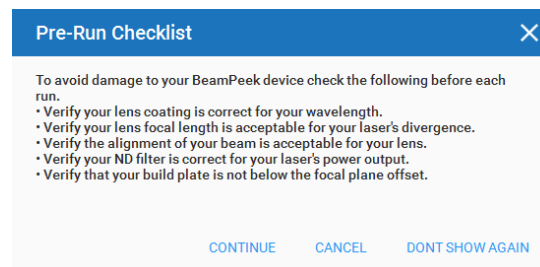
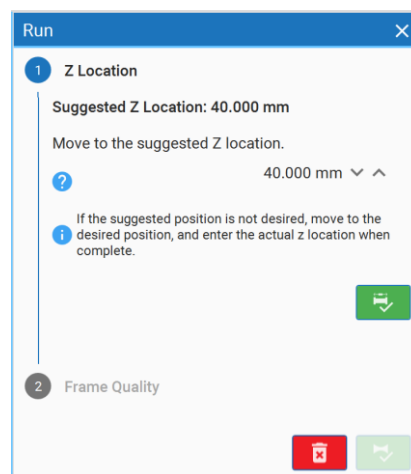

Figure 31: Pre-Run Checklist
Figure 32: Z Location Step in the Run Wizard
1. Click **Start** in the **Run** panel. The first time a run is started, a **Pre-Run Checklist** is shown (Figure 31). Carefully review the setup of the BeamPeek before starting a run to avoid damaging the device. Select **Cancel** to abort starting a run or select **Continue** to open the **Run** wizard (Figure 32). Selecting **Don't Show Again** will also proceed to open the **Run** wizard but the software will not show the checklist again the next time a run is started.